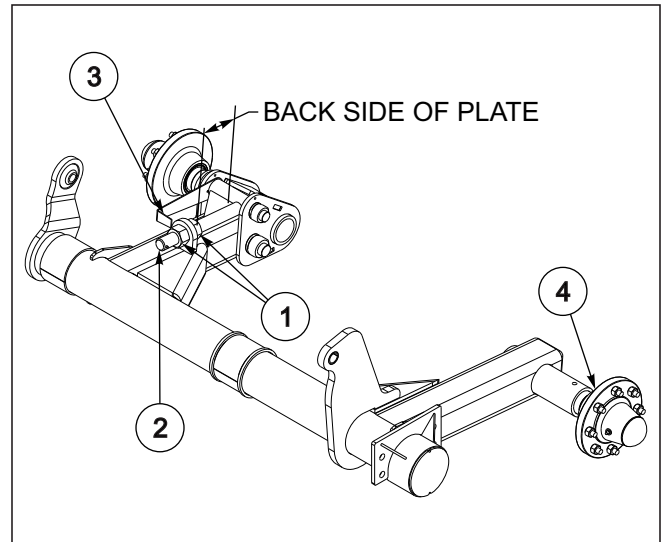

Figure 4-13: Center Spindle Adjustment
8. Be sure the front of the spindle adjustment gauge (3) is even with the back side of the plate on the LH & RH center lift **See Figure 4-13.**
9. To adjust, lower the Blade Plow until the pressure is off hub & spindle (4). Loosen the 1-1/2" hex nut on the spindle adjustment rod (2) and adjust the other 1-1/2" hex nut (1) until the spindle adjustment gauge is even with the back side of the plate. Tighten the other 1-1/2" hex nut to secure.